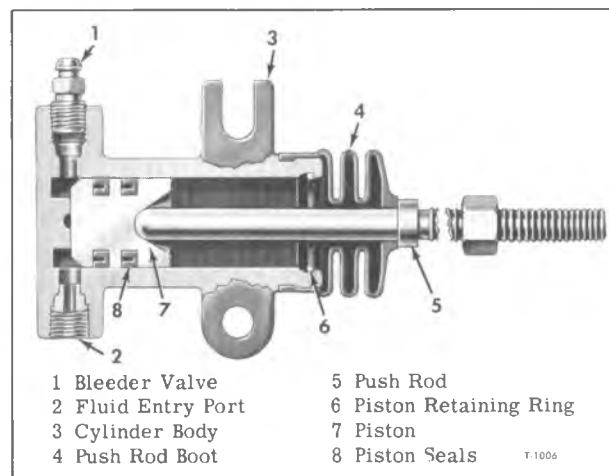
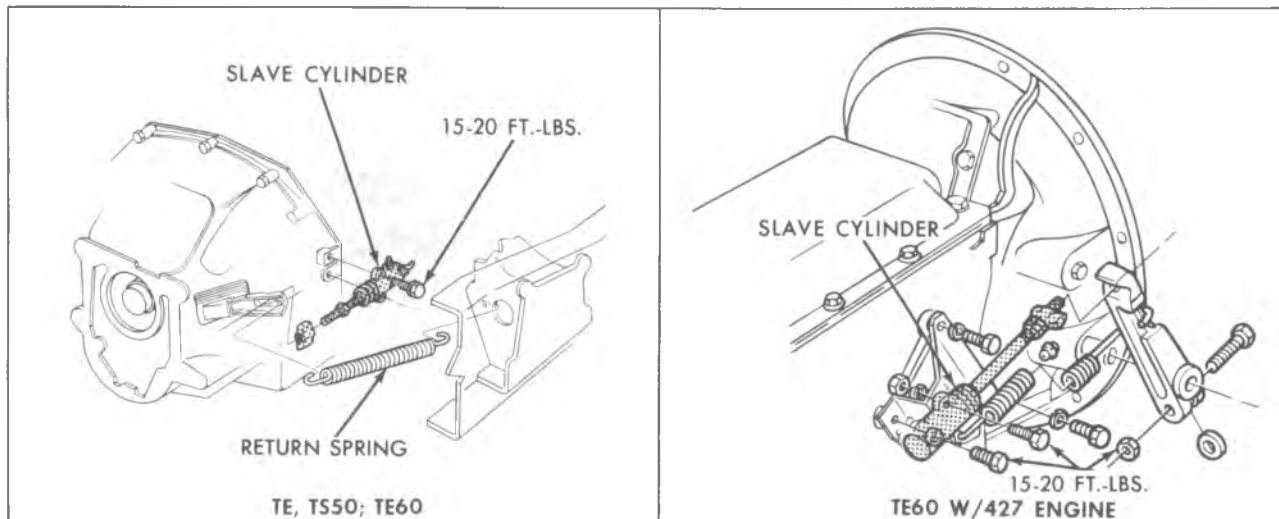

Figure 15—Clutch Slave Cylinder (Typical)
Figure 16 — Clutch Slave Cylinder Installation
The need for bleeding air from the system is generally indicated by a springy, spongy pedal action. The presence of air in system is a result of low fluid level in master cylinder, or if some part of system has been opened. Bleeder valve is provided at the slave cylinder alongside of clutch (fig. 15).
3. Slip end of bleeder drain hose over bleed valve at slave cylinder (8, fig. 15) and place the other end in a glass jar containing enough hydraulic fluid to cover end of hose. Open bleeder valve with wrench and observe flow of fluid from hose. Close bleeder valve as soon as bubbles stop and fluid flows in a solid stream.
The clutch slave cylinder (fig. 15) mounted at side of clutch assembly (fig. 16) activates the mechanical clutch release fork or lever to disengage clutch when cylinder is pressurized.
### REMOVAL (Refer to Fig. 16)
### DISASSEMBLY (Refer to Fig. 15)
### INSPECTION (Refer to Fig. 15)
### ASSEMBLY (Refer to Fig. 15)
1. Bolt slave cylinder assembly to engine (fig. 16).